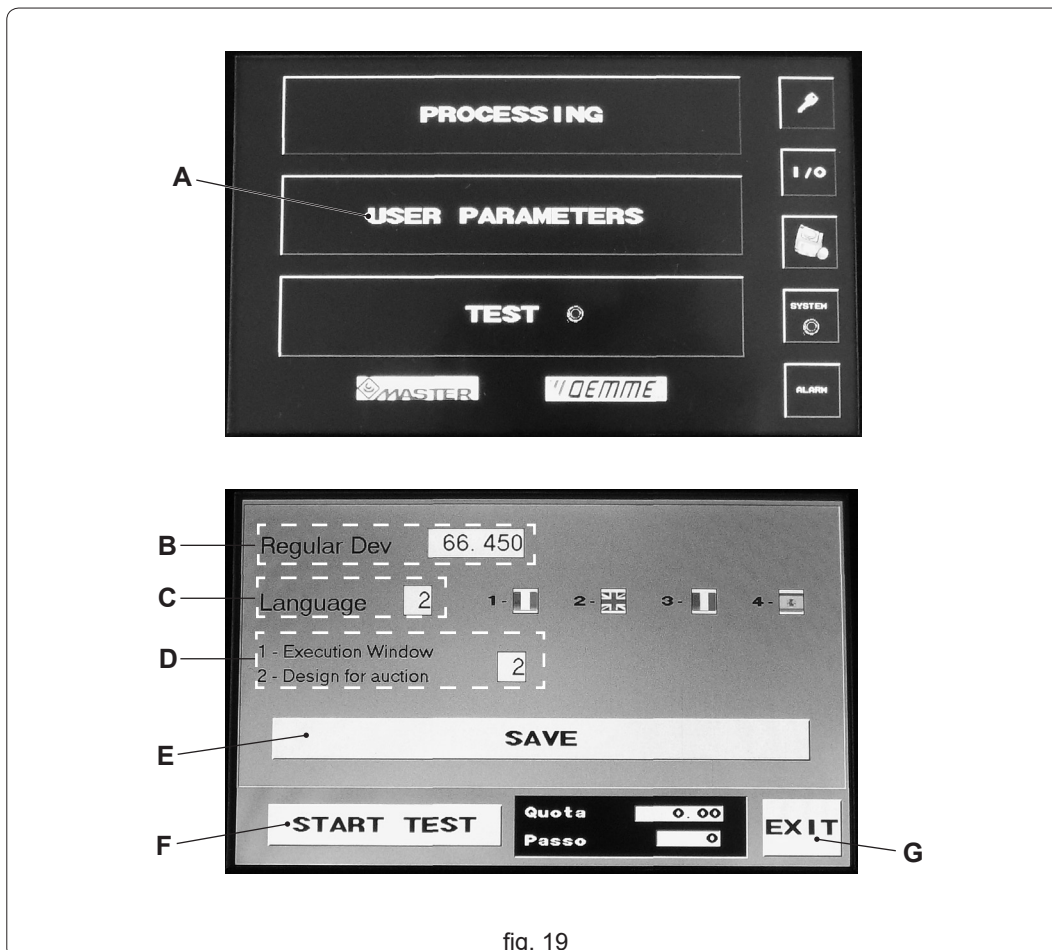

fig. 19
In section “USER PARAMETERS” (fig. 19 ref. A) are some parameters that the user can have access to any changes in settings.
- “Regular Dev” (fig. 19 ref. B): modify the measure of this parameter in case the rod were longer or shorter after a verification measure, actually after “START TEST” carrying out (fig. 19 ref. F).
N.B.: In case of any eventual adjustment, 0.07 mm, added or took off from parameter “Regular Dev” (fig. 19 ref. B), correspond to 1mm rod change.
For instance: if the rod comes 1mm longer, it's neede to add the “Regular Dev” (fig. 19 ref. B) of +0.07mm, on the contrary, if 1mm shoter, lower it of -0.07mm.
- “Language” (fig. 19 ref. C): type in the box the number corresponding to the language you want from those displayed.
- “Execution Window” or “Design for auction” (fig. 19 ref. D): when a particular working has been entered, an amount of 2 or higher, you can choose to get the supply of drilled rods ordered for single window or for rod measure. Type in the corresponding box, the selected number.
- “START TEST” (fig. 19 ref. F): you should run a test every time you start a working or reel changing, to verify the correspondence between the set length and the real output rod; This is because, for various reasons, the real length may change. This feature is set on providing a long 1 m rod with the holes at the ends and the slot in the center (type 3). Touching the box, the machine begins to deliver a single rod. Taking the measurement: whether is more or less than 1 m, change the parameter “Regular Dev”.
- “SAVE” (fig. 19 ref. E): to digit after every modification you did, and you want to save.
- “EXIT” (fig. 19 ref. G): to digit to exit from this interface.